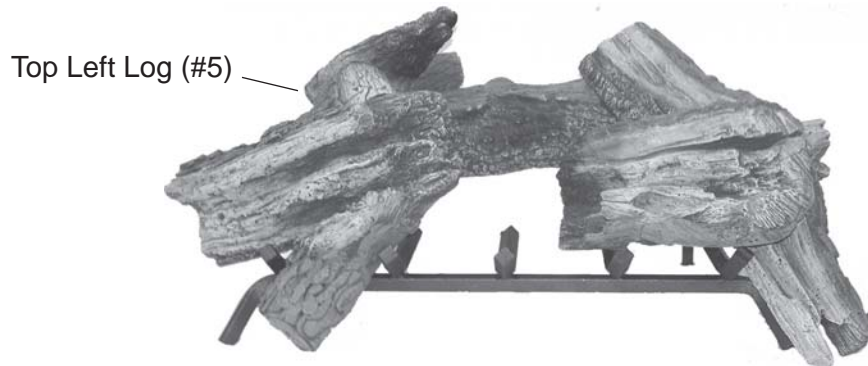

Figure 134 - Placing Top Left Log (#5) behind Rear Log
6. Place Top Left Log #5 behind Rear Log #1 on the notch on rear left of grate stand. *See Figure 134.*